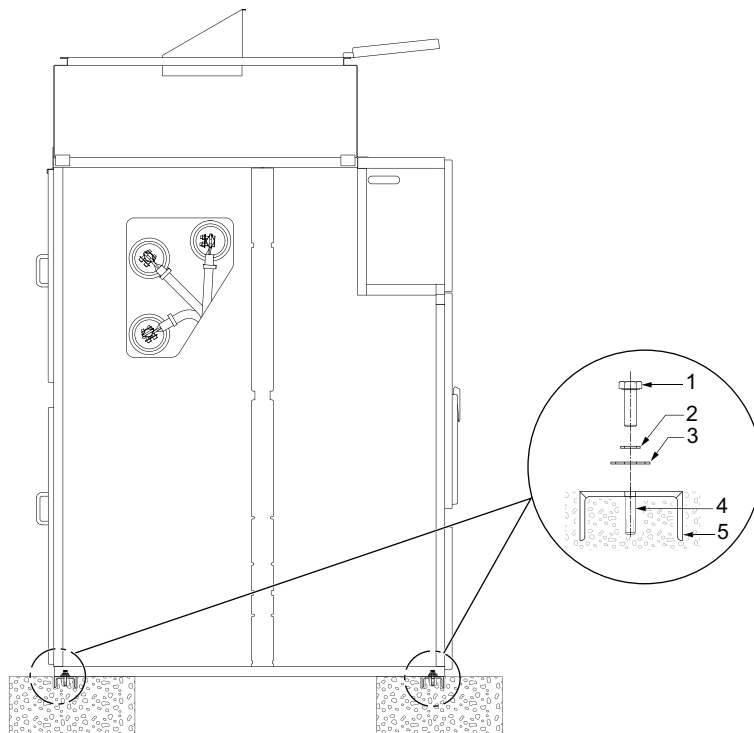

Figure 26
3. Insert dowel pin and other suitable fasteners (provided by Schneider Electric) refer to Figure 26.